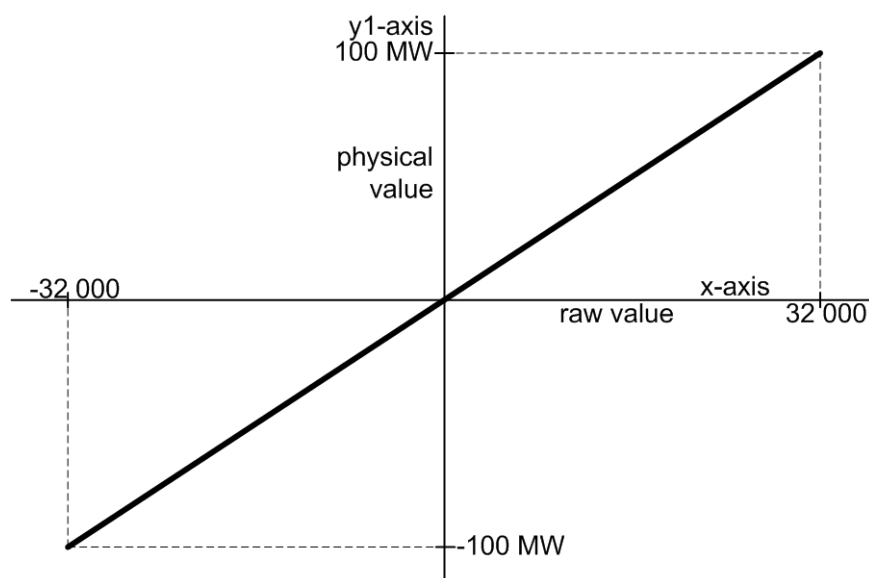

Figure 3-2.31: Linear, Bipolar Characteristic
- Linear, bipolar (Figure 3-2.31)